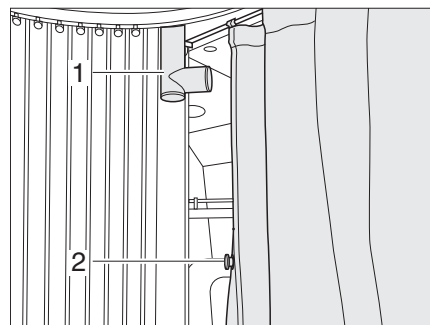

Fig. 131 Fastening the shower curtain
- Take out the shower handset and insert it into the holder (Fig. 131,1).
- Close the shower curtain leading to the toilet with the magnet (Fig. 131,2) or the snap fasteners.